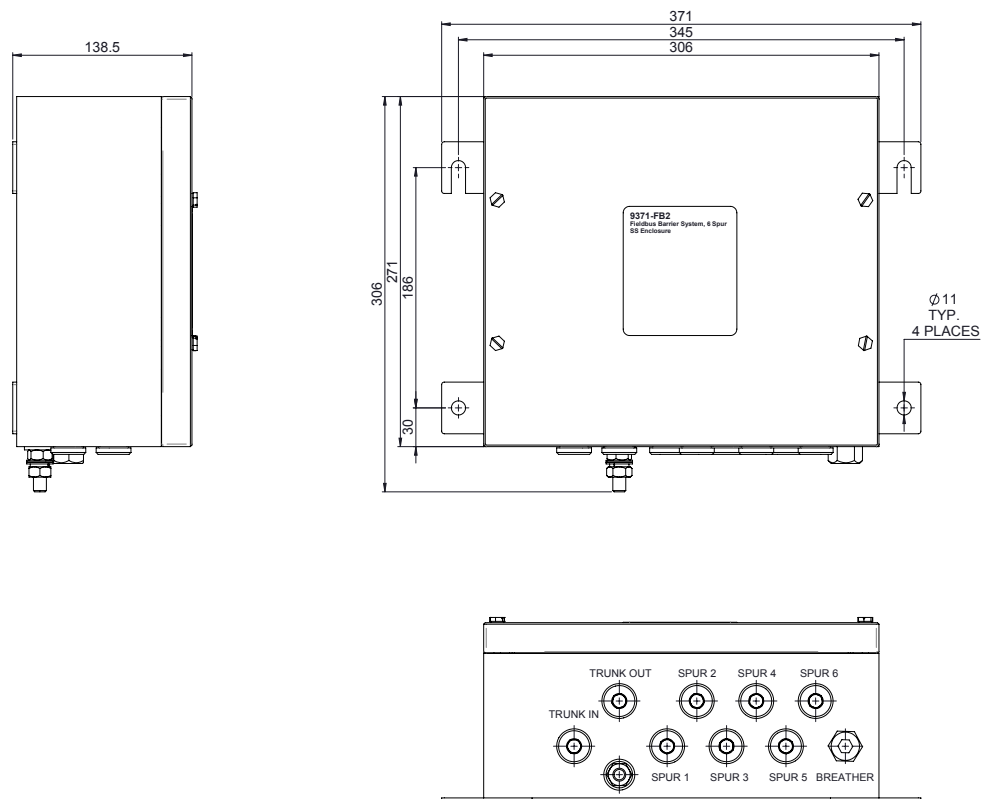
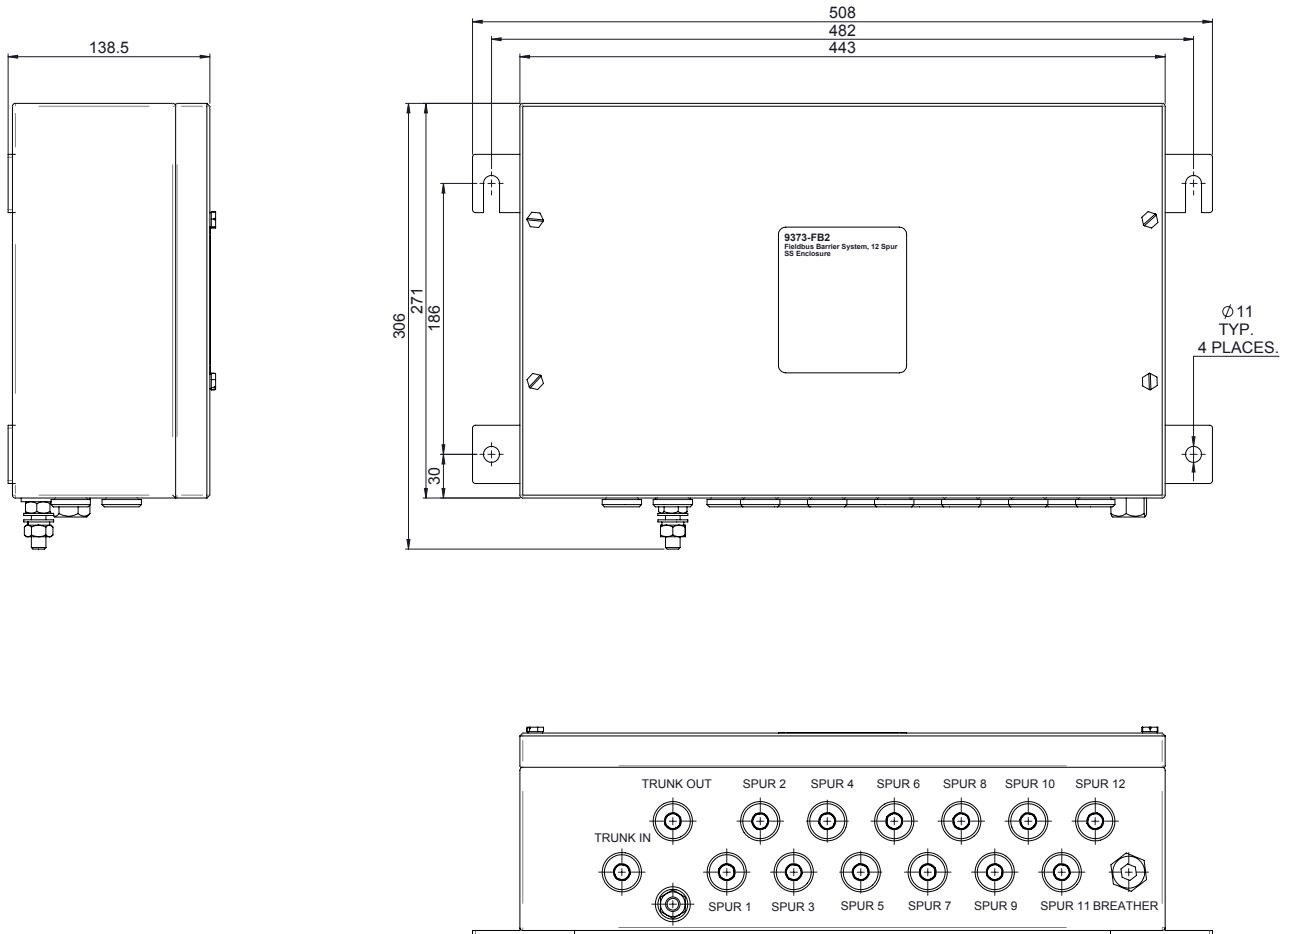

Figure 3.1 – External dimensions and mounting hole positions for the 6-way enclosure 9371-FB2-Px-SS
Figure 3.2 – External dimensions and mounting hole positions for the 12-way enclosure 9373-FB2-Px-SS
See Figures 3.1 and 3.2 for the dimensions, fixing locations and cable gland positions for both enclosure models.
- c) The enclosure is designed for mounting on a vertical surface, with the cable entry at the lowest point, as shown in the upper part of Figure 3.1 or Figure 3.2.
Mark hole positions as shown in Figures 3.1 or 3.2.
a) It is recommended that a washer, not exceeding the 11mm diameter specified in Figures 3.1 and 3.2, is placed under the head of each of the bolts used to fix the enclosure to its mounting surface.